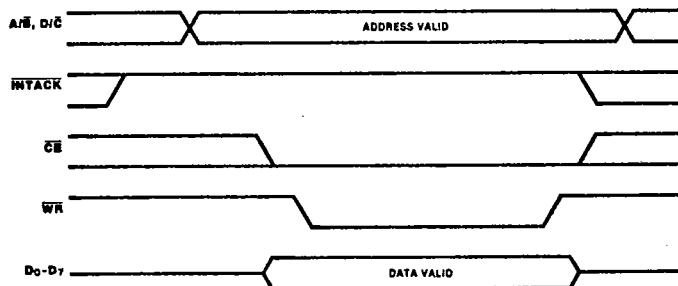

Figure 13. Write Cycle Timing
**Write Cycle Timing.** Figure 13 illustrates Write cycle timing. Addresses on A/B and D/C and the status on  $\overline{INTACK}$  must remain stable throughout the cycle. If